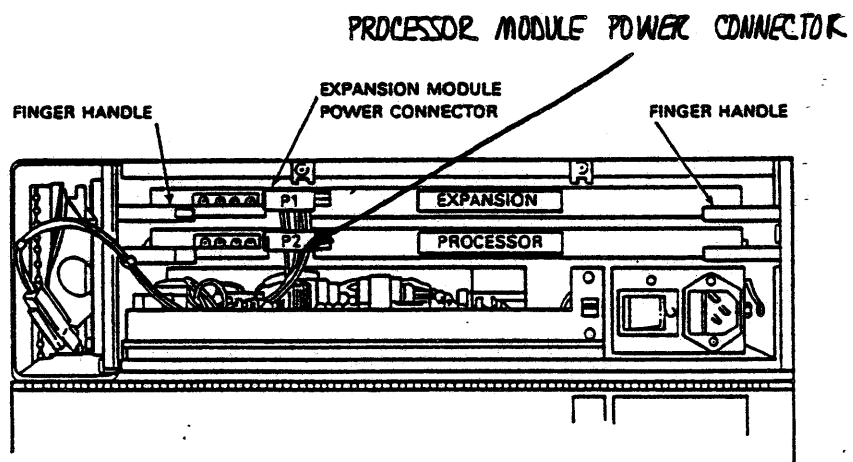

Figure 4-21 H3014 Distribution Panel with Rear Cover Open
5. Disconnect the expansion module and the processor module power connectors (Refer to Figure 4-21).
5. Disconnect the processor module and expansion module power connectors (Refer to Figure 4-21).
6. Grasp the two finger handles (Figure 4-21) on either side of the processor module. Pull the finger handles toward the back of the H3014 to physically remove the processor module from the backplane.